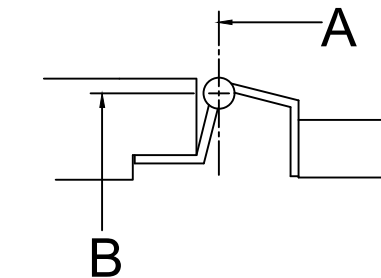

FIG. 4
- Location of swing clear hinge centerline to determine "A" and "B" dimensions. FIG. 4